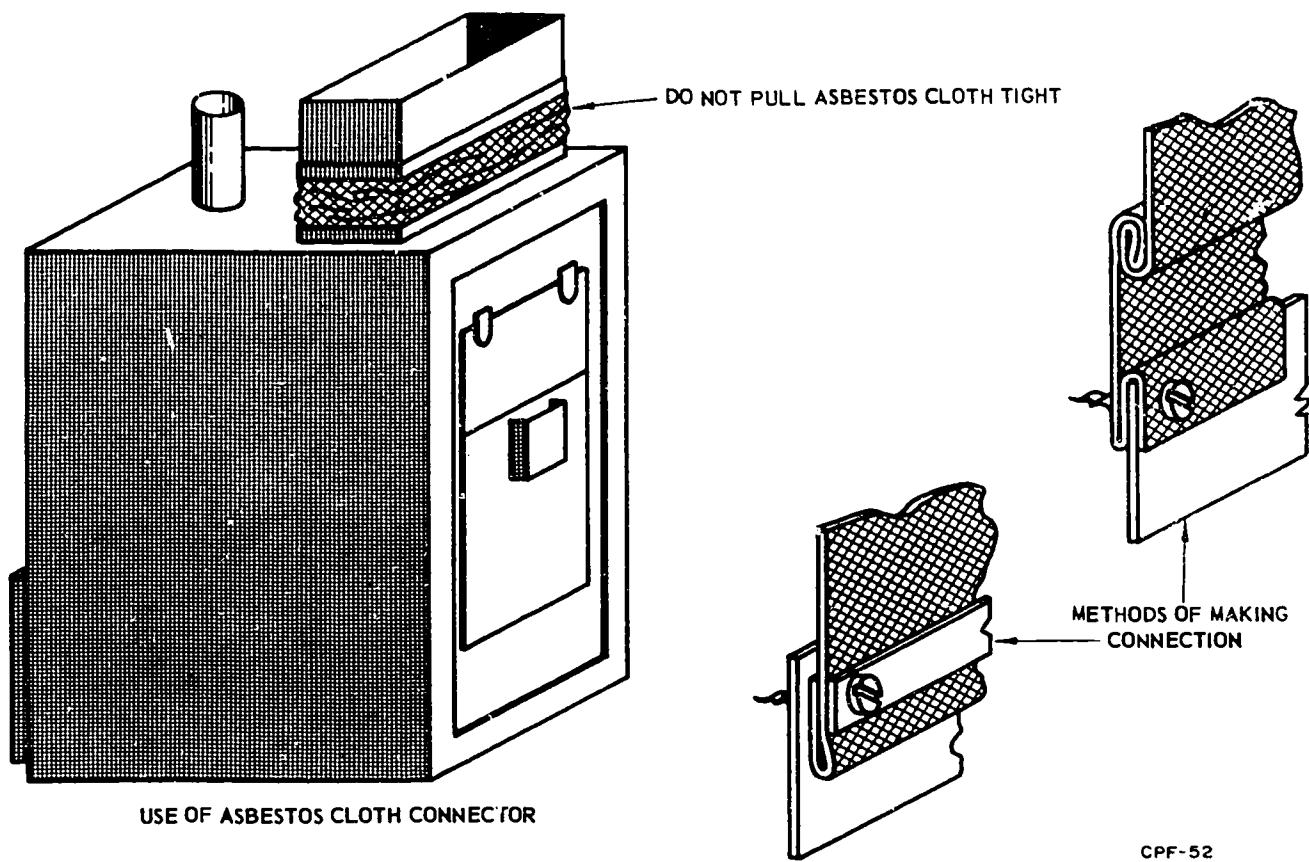
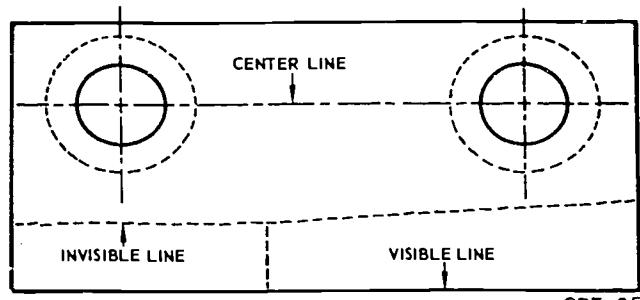

Figure 1-5. Detail view of a duct.
Figure 1-7. Visible and invisible outlines.
**Detail views.** Detail views often show small parts that cannot be seen clearly in the plan and elevation views. For example, the detail view shown in figure 1-5 illustrates the use of a cloth connector and methods of making the connection. This cloth connector is used to prevent furnace noise from being transmitted through the duct system. You will find detail views similar to these included with most plan and elevation drawings that include descriptions such as size, specifications, shape, materials, and methods of fabrication.
**Visible outlines.** In describing an object with a drawing, the outline of all faces is represented by lines. The surfaces visible to the eye always are outlined in solid lines. Being bold, solid lines, they become the basis for comparison of the weights of all other lines. Notice the weight of these lines in figure 1-7.
**Hidden lines.** Surfaces that are invisible (or hidden) are outlined with dashed lines. A hidden line actually is a series of short dashes of medium weight, about half as heavy as the lines used to indicate visible surfaces. When reading working drawings, it is important for you to remember that a series of short, uniform dashes always represent surfaces that are hidden. Examine figure 1-7 and locate the lines that indicate hidden surfaces. Also, examine the invisible (dashed) lines used in figure 1-5 to see if you understand what they represent.
**Centerlines.** For the sake of accuracy in the construction of many objects, it is essential to lay off the dimension from a centerline rather than from the edge or side. This is true particularly of circular objects or objects made up of curved parts. This centerline in a working drawing also is known as the central axis and is illustrated in figure 1-7, where it is used to locate holes that are to be drilled along a straight line. Note that, in this case, the centerline is not the center of the object but is drawn through the centers of the holes. A centerline is made up of a series of long and short dashes.
**Dimension Lines.** If a working drawing is to be satisfactory, it must have not only the correct shape but also the size of the object and all of its features. The size is indicated by dimension lines that are recognized easily by the arrowheads at each end. Examine the use of dimension lines in figures 1-5 and 1-6. Notice that the dimension lines are not continuous because of a space near the center where the dimension is written.